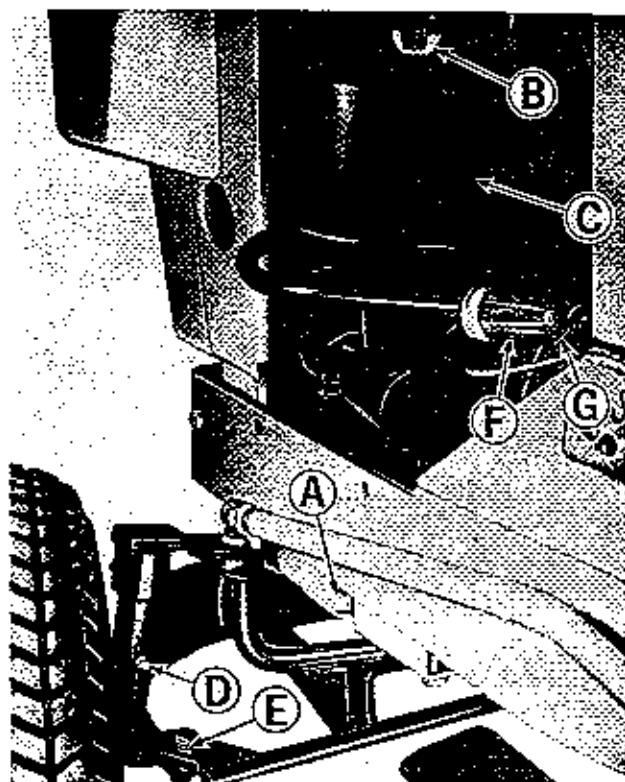

Figure 21. Left front of tractor.
2. See figure 21. Remove the drain plug (A) from the bottom of the engine base and allow the oil to drain.
1. See figure 21. Remove the wing nut (B) and cover (C) from the air cleaner unit.
5. See figure 21. Replace the air cleaner cover (C) and fasten it securely with wing nut (B).
Left Spindle	Figure 21, Item D
Left Tie Rod End	Figure 21, Item E
1. See figure 21. Remove wing nut (B) and cover (C) from the air cleaner.
7. See figure 21. Replace cover (C) and wing nut (B) and tighten securely.
REPLACE FUEL FILTER: See figure 21. Every 100 hours or more often under dirty field conditions, the fuel filter (F) should be replaced. **CAUTION: DO NOT REMOVE THE FUEL FILTER WHEN THE ENGINE IS HOT, AS SPILLED GASOLINE MAY IGNITE. USE CARE WHEN REMOVING AND INSTALLING CLAMPS (G), NOT TO SPREAD THEM ANY MORE THAN NECESSARY AS THEY MAY TAKE A SET AND NOT HOLD THE HOSE TO THE FILTER PROPERLY.**